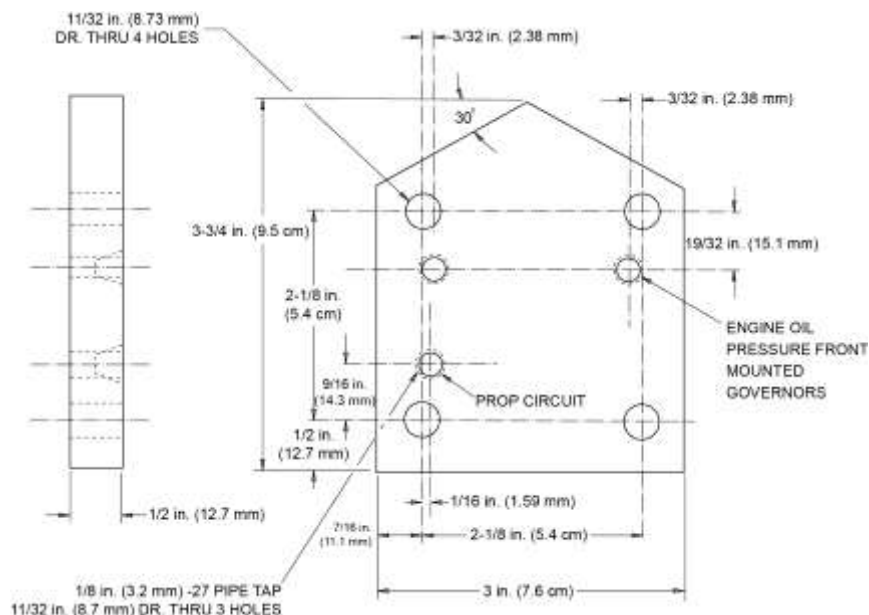

Figure 93
NOTICE: In the following steps, to prevent an air leak, use a propeller governor gasket P/N 72053 with test plate P/N ST-483 (Figure 93). Refer to the latest revision of Service Instruction No. 1462 for any updates.
- (2) Install the gasket and the test plate P/N ST-483, or equivalent on the governor pad with the air fitting in alignment with the governor oil passage that goes to the front bearing (forward hole) or left side of the mounting facing the pad. Refer to Figure 93.
- (3) Connect a calibrated oil pressure gauge (0 to 100 psi) (0 to 689 kPa) to the appropriate engine oil pressure port on the test plate for your governor location. Install a plug in the propeller circuit and unused engine oil pressure circuit port.
- (4) Start and warm-up the engine until the oil temperature is within the correct operating range (Appendix A of the *TEO-540-A1A Engine Installation and Operation Manual*.)